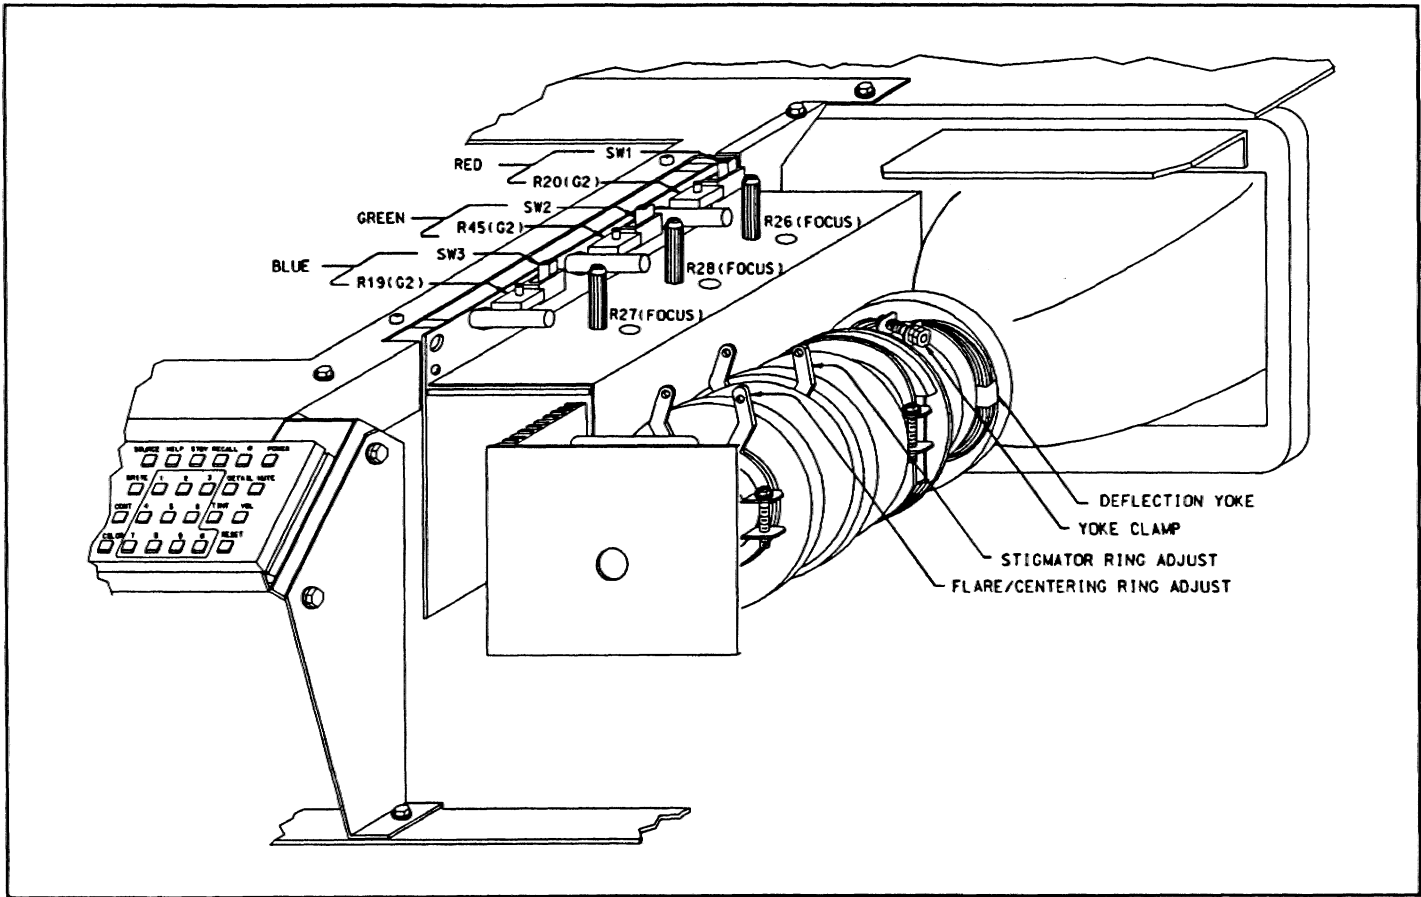

FIGURE 7-5. Bias Module and CRT Controls
- Adjust the three G2 trim potentiometers (R20, R45, R19) on the Bias module until the raster of each color is visible (see Figure 7-5).
b) For the newly installed or reassembled CRT, turn on the corresponding CRT switch on the Bias module. Refer to Figure 7-5. With the internal cross hatch selected from the keypad, look into the CRT lens and adjust the G2 and focus controls on the Bias module. Set the controls to
c) Turn OFF the newly installed CRT and turn ON one of the original CRTs, preferably the green or red. Use the appropriate switch on the Bias module. See Figure 7-5.
- View the screen center. Rotate the stigmator rings until the spot becomes round. Refer to Figure 7-5.
- Rotate the flare rings until the bright spot is in the center of the halo. Refer to Figure 7-5.